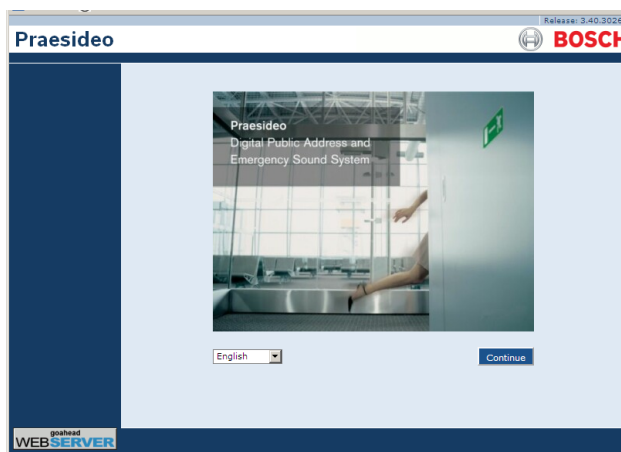

figure 36.6: Praesideo web interface home page.
- 2 Enter the IP address of the network controller in the address bar. Do not use leading zeros in the IP address. For example, if the IP address that is displayed on the network controller is 192.168.000.015, enter 192.168.0.15 in the address bar. A screen similar to the one in figure 36.6 appears.